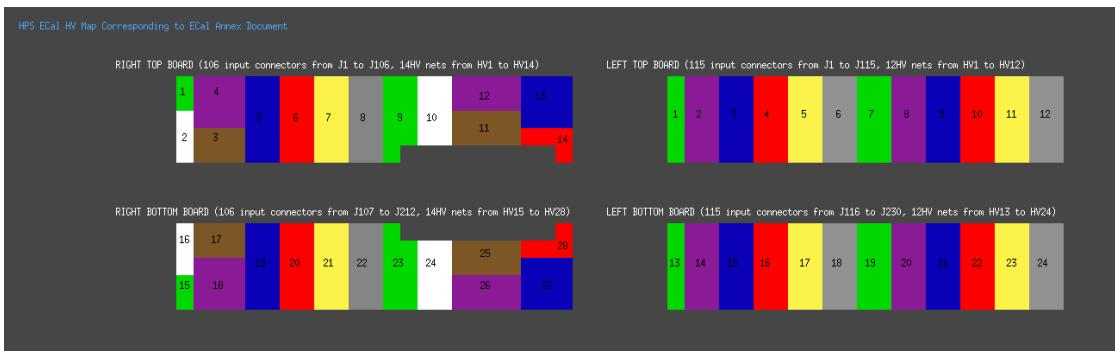

Figure 18: Expert HV channel map for reference.
**NOTE:** The ECal HV groups had to be renumbered in the EPICS, the correspondence map (figure 18) is available in the main ECal HV monitoring window with the Expert HV Map button.